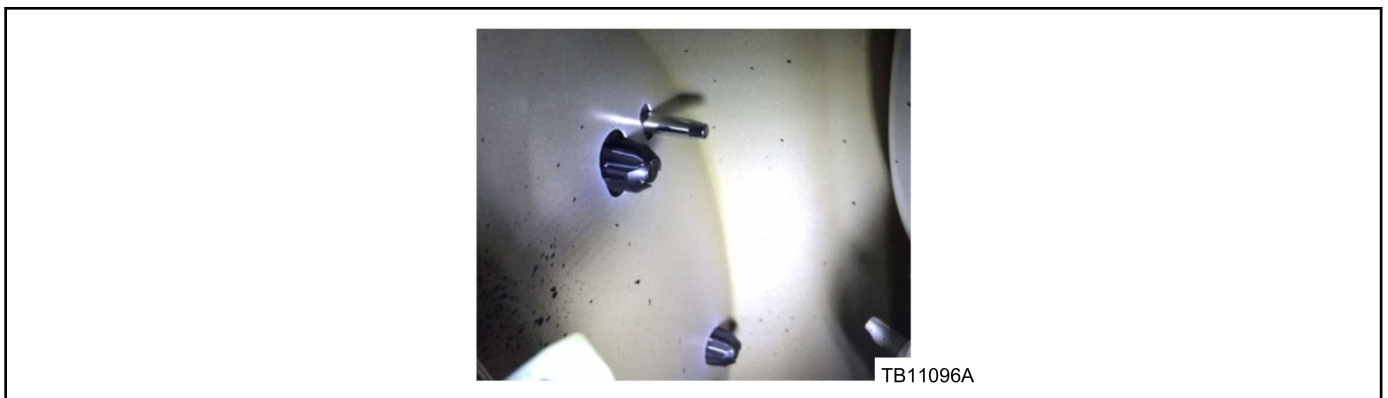

Figure 28 - Article 17-0044
- e. Ford name plate. (Figure 28)